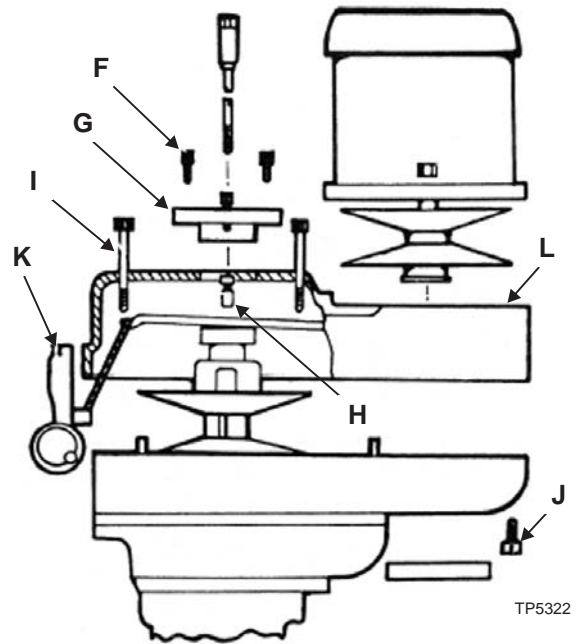

Figure 8.3 - Drive Belt Replacement
2. Remove the three screws "F", Figure 8.3. Insert them into the adjacent tapped holes and withdraw bearing housing "G".